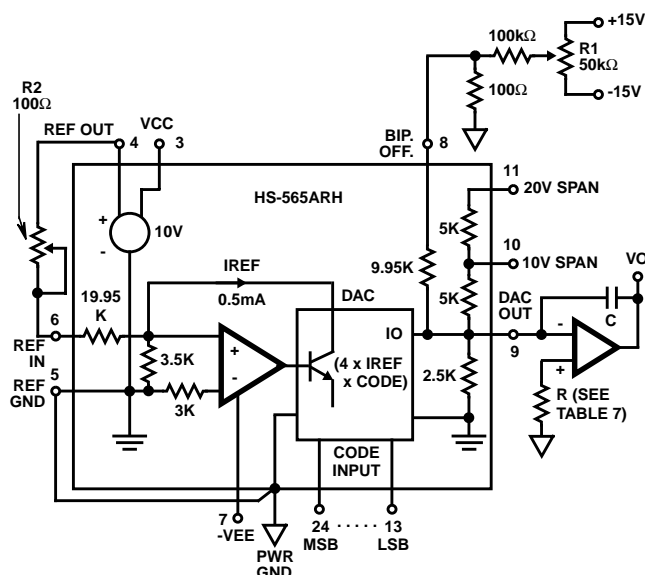
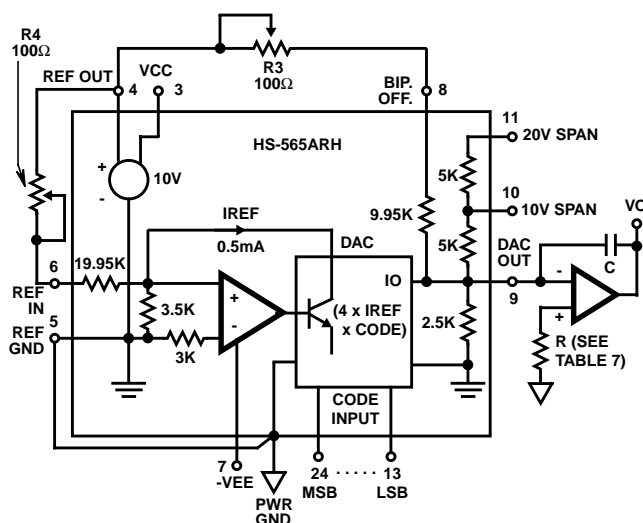

FIGURE 3. UNIPOLAR VOLTAGE OUTPUT
FIGURE 4. BIPOLAR VOLTAGE OUTPUT
3. Reference the Settling Time discussion and Figure 3.
The HS-565ARH's current output may be converted to voltage using the standard connections shown in Figures 3 and 4. The choice of operational amplifier should be reviewed for each application, since a significant trade-off may be made between speed and accuracy. Remember settling time for the DAC-amplifier combination is
The HS-565ARH will perform as specified without calibration adjustments. To operate without calibration, substitute 50Ω resistors for the 100Ω trimming potentiometers: In Figure 3 replace R2 with 50Ω; also remove the network on pin 8 and connect 50Ω to ground. For bipolar operation in Figure 4, replace R3 and R4 with 50Ω resistors.
Calibration provides the maximum accuracy from a converter by adjusting its gain and offset errors to zero. For the HS-565ARH, these adjustments are similar whether the current output is used, or whether an external op amp is added to convert this current to a voltage. Refer to Table 7 for the voltage output case, along with Figure 3 or 4.